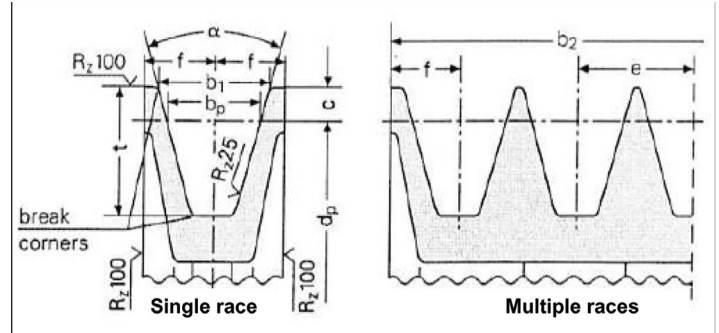

fig. 8
- Use pulleys for v-belts with race dimensions prescribed/ recommended by the belt Manufacturer. Should no indications be supplied, please see fig. 8 and the table in fig. 9.